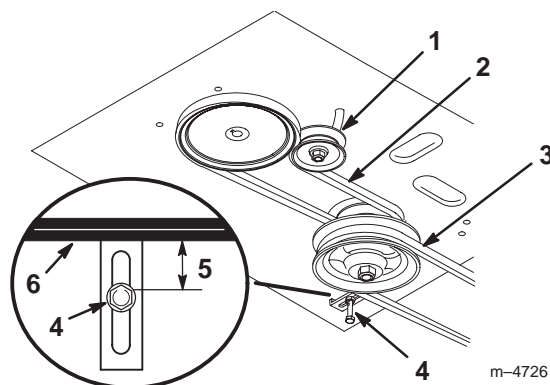

Figure 40
4. Remove the mower belt (Fig. 40).
5. Loosen the pivot bolt enough to slide the idler pulley in the slot and remove the traction belt from the engine and the drive pulleys (Fig. 40).
6. Install the new traction belt around the engine and the drive pulleys (Fig. 40).
7. Slide the idler pulley in the engine frame to tension the traction belt (Fig. 40).
8. Install the mower belt (Fig. 40).
9. Check the belt guide under the engine frame for the proper adjustment (Fig. 40).
4. Remove the idler pulley and the worn belt (Fig. 40).
13. Check the belt guide under the engine frame for the proper adjustment (Fig. 40).